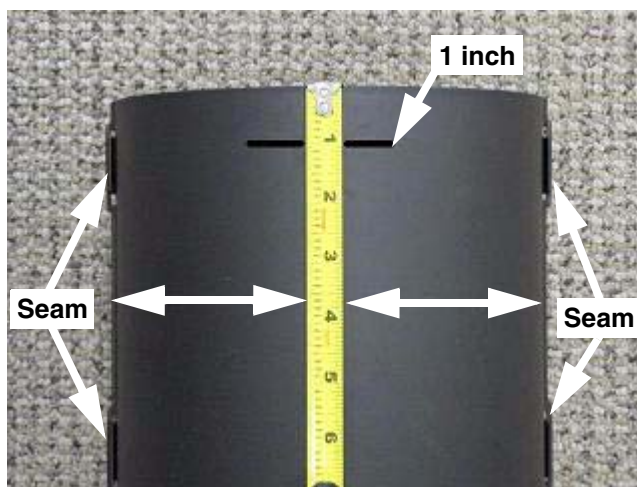

FIGURE 3
2. If not, measure 1" down from the straight portion of the upper chute assembly centered in between the two seams on the side of the upper chute assembly. See Figure 3. Make a mark.